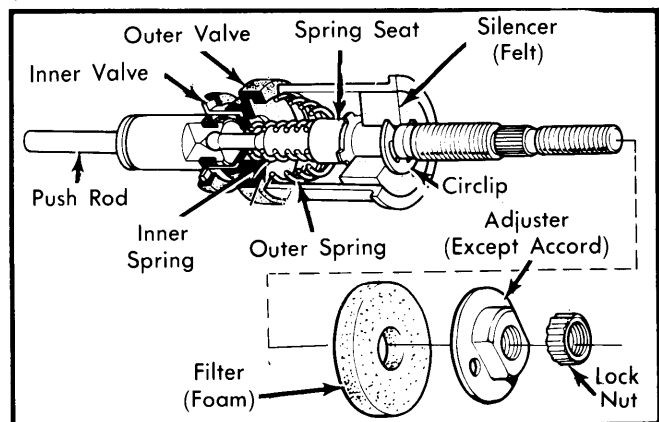

Fig. 8 Exploded View of Power Brake Valve Holder Assembly
2) Before installing valve assembly, coat inner valve with silicone grease. Assemble valve assembly as shown in Fig. 8. Install new diaphragm and retainer. Apply silicone grease to inner and outer surfaces of piston tube, then press valve holder assembly into piston tube.